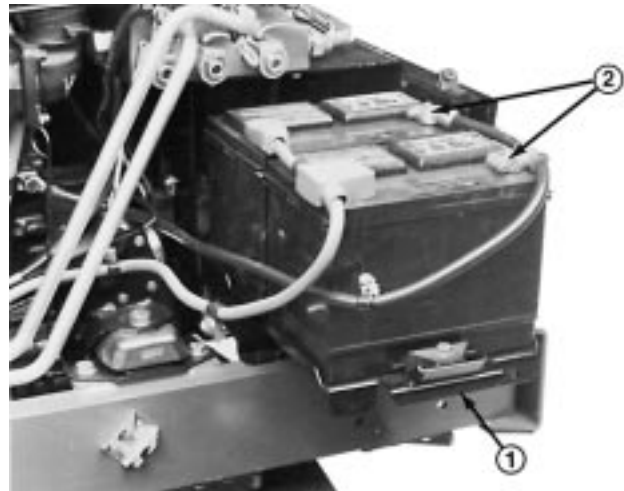

Figure 52
2. Remove capscrews securing battery tray to machine and slide tray out (Fig. 52).
4. Remove negative (–) battery cable connectors from batteries (Fig. 52). Connect a 3 to 4 amp. battery charger to the posts. Charge the batteries at a rate of 3 to 4 Amperes for 4 to 8 hours.